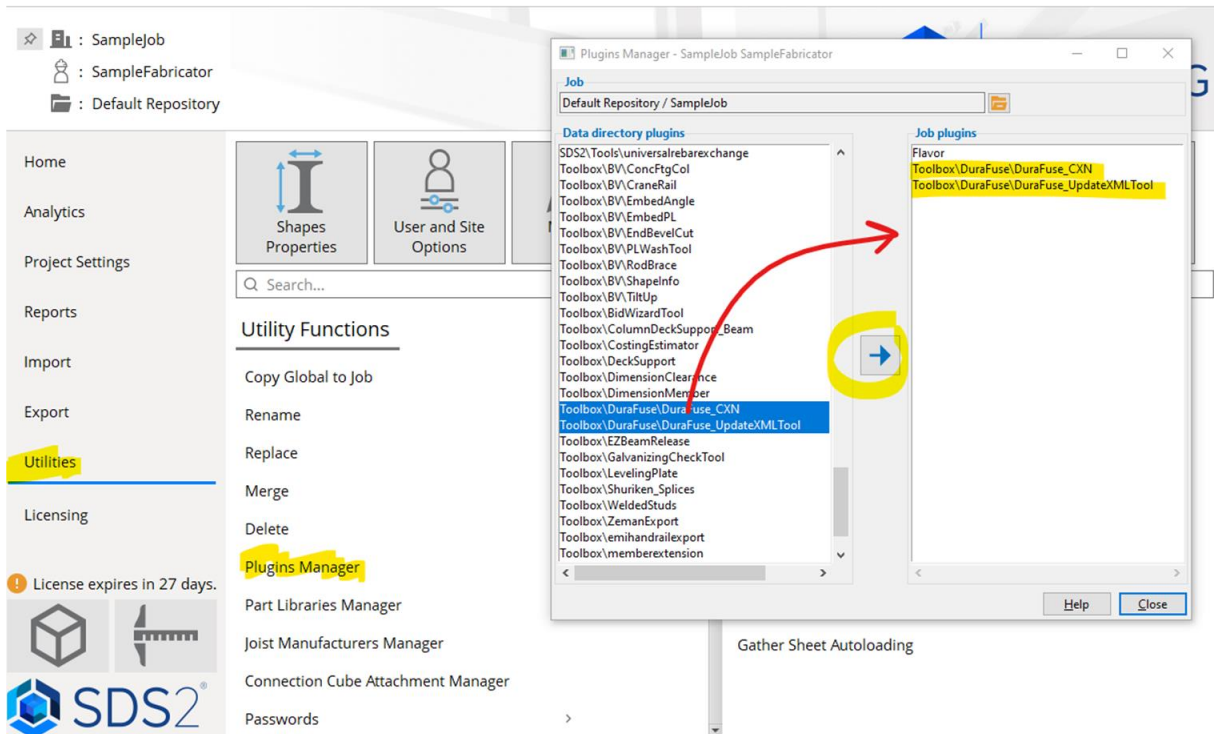

Figure 7. Plugins Manager
- 1) On the main SDS2 screen select **Utilities – Plugins Manager** (Figure 7).